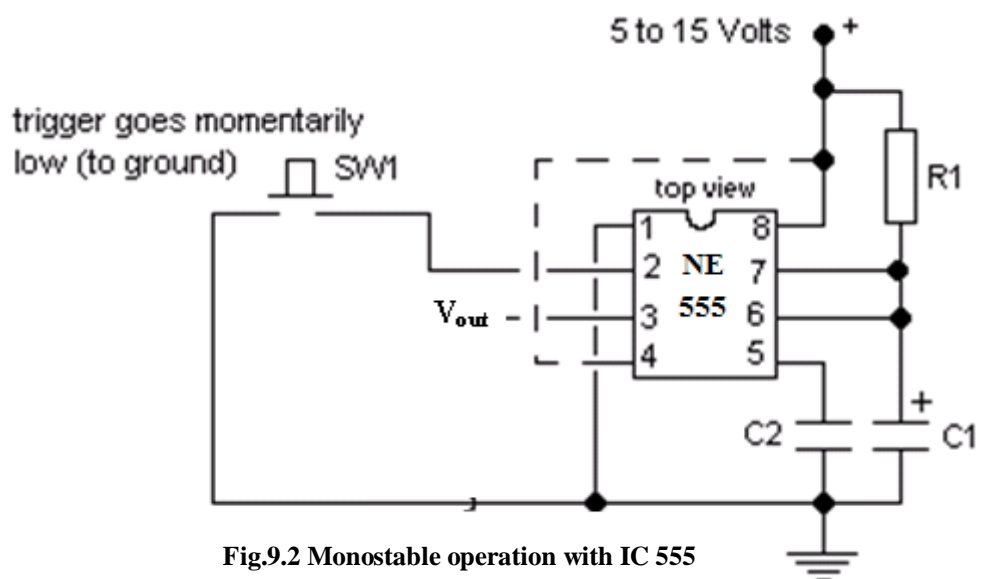

Fig.9.2 Monostable operation with IC 555
3.1 The monostable multivibrator circuit (shown in Fig.9.2) produces a single output pulse when triggered.